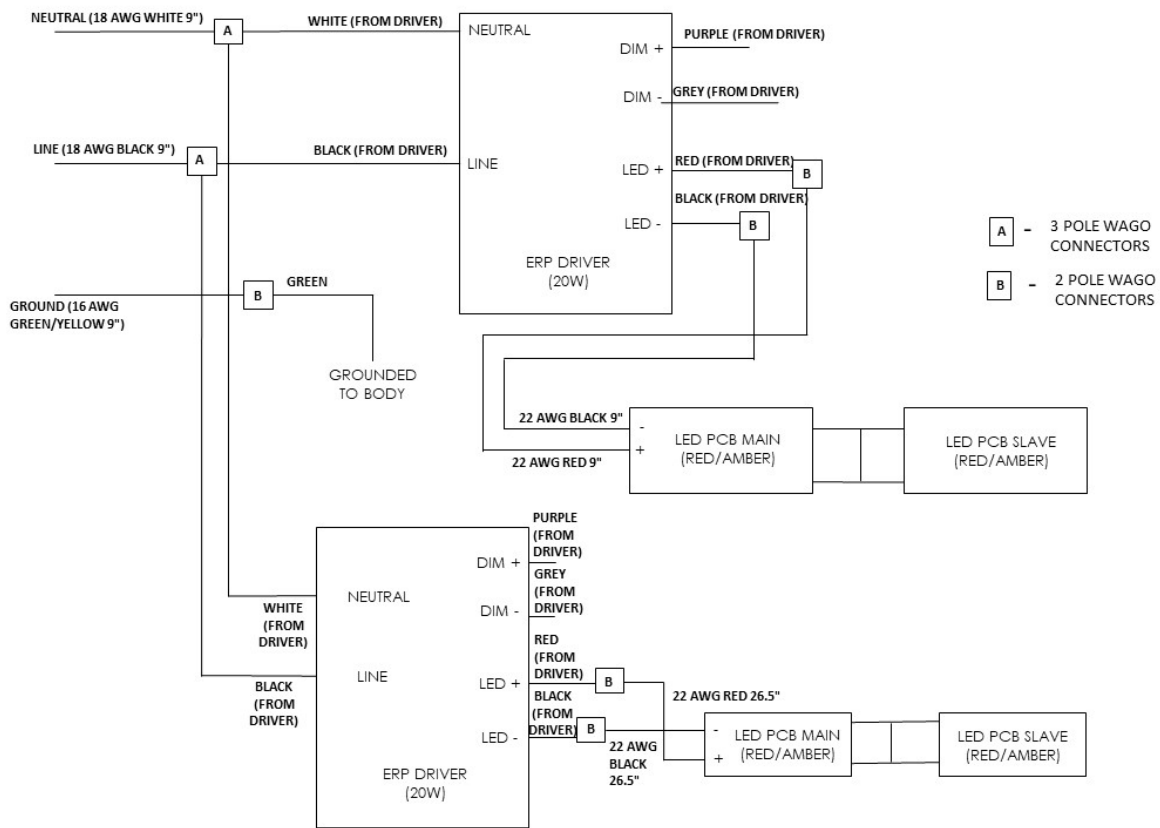
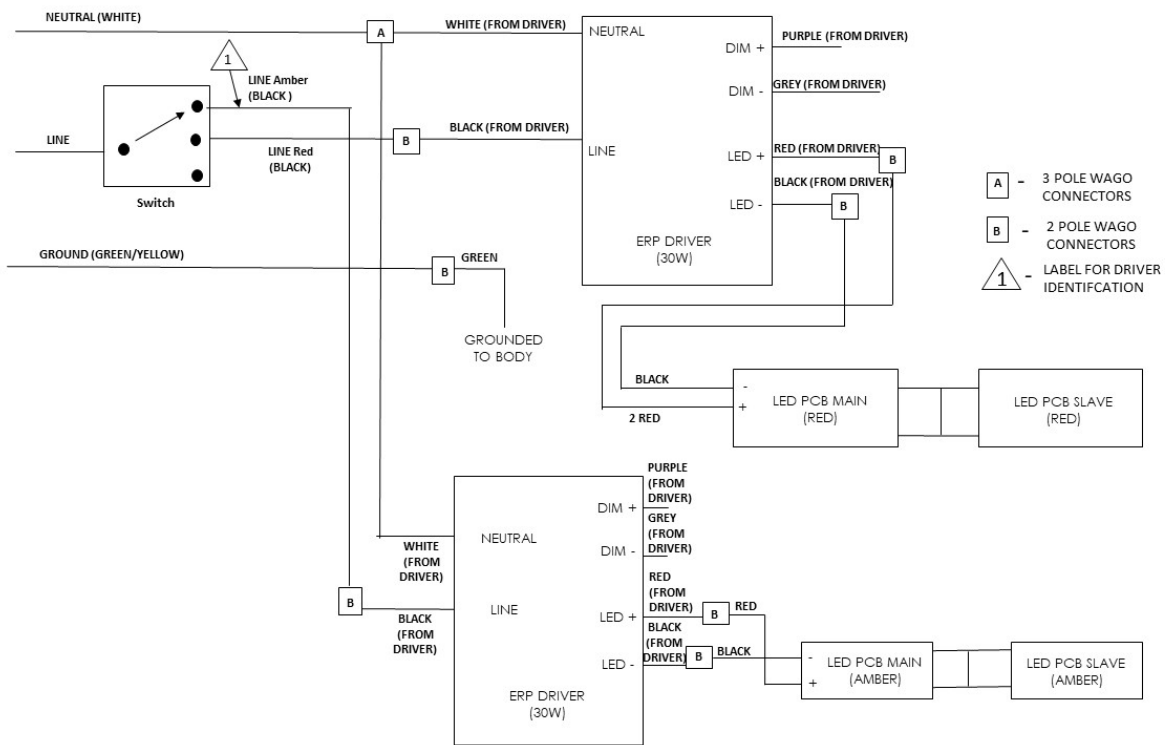
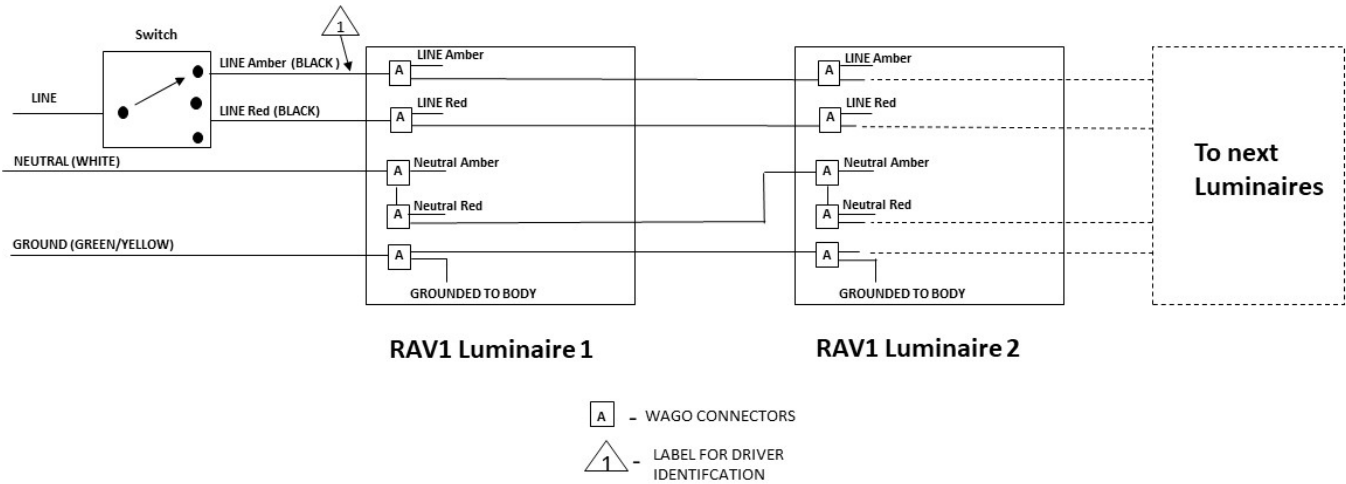

Figure 9. Wiring diagram for RV1 OR AV1 Luminaire
Figure 10. Wiring diagram for RAV1 Luminaire
Figure 11. Wiring diagram for more than one RAV1 Luminaires
3. Refer to wiring diagram in Figure 9 for RV1 or AV1 luminaire and Figure 10 for RAV1 luminaire. Maximum four (4) conductors are allowed through each entry hub.
4. The switch shall be suitable for 120-277 VAC and $0.5A \times \text{Number of luminaires connected to the switch}$, hence switch is intended to control 1 or more luminaires. Figure 10 is an example of switch controlling 1 luminaire with 2 circuits and Figure 11 is an example of switch controlling multiple luminaires with 1 switch.